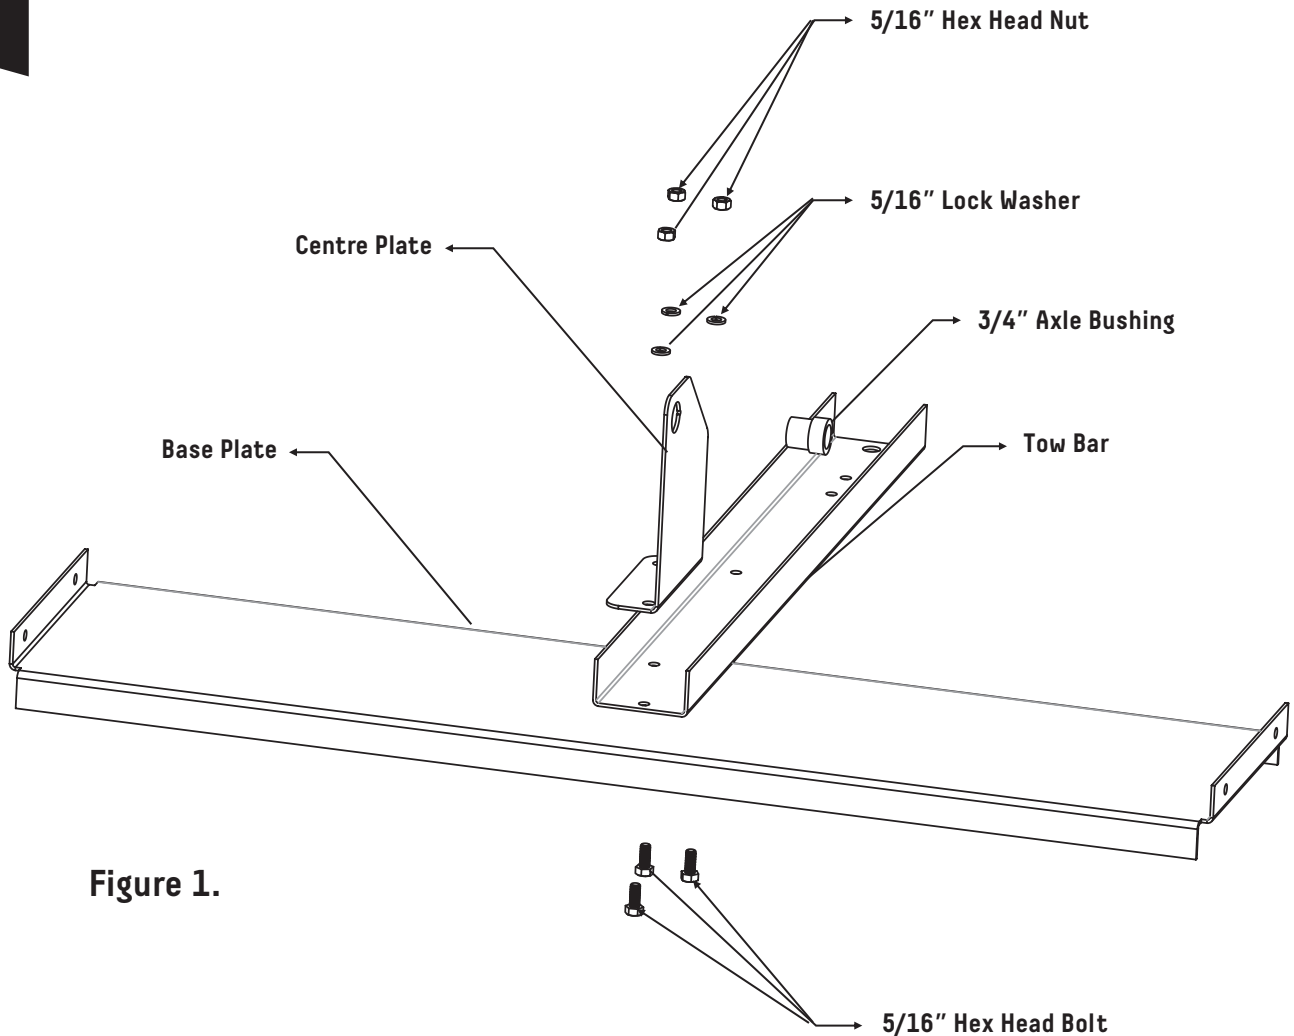

Figure 1.
1. Place the Base Plate on a flat surface. Insert a 5/16 x 3/4" Hex Head Bolt into the top right hole, then insert the bolt into the corresponding hole of the Tow Bar. Place a 5/16" Lock Washer onto the bolt and secure with a 5/16" Hex Head Nut. Next align the Centre Plate with the two remaining holes. Insert 5/16 x 3/4" Hex Head bolts through the holes in the Base Plate and the corresponding holes of the Tow Bar and Centre Plate. Place a 5/16" Lock Washer onto each bolt and secure with 5/16" Hex Head Nuts. Insert a 3/4" Axle Bushing into the Centre Plate. See Figure 1.